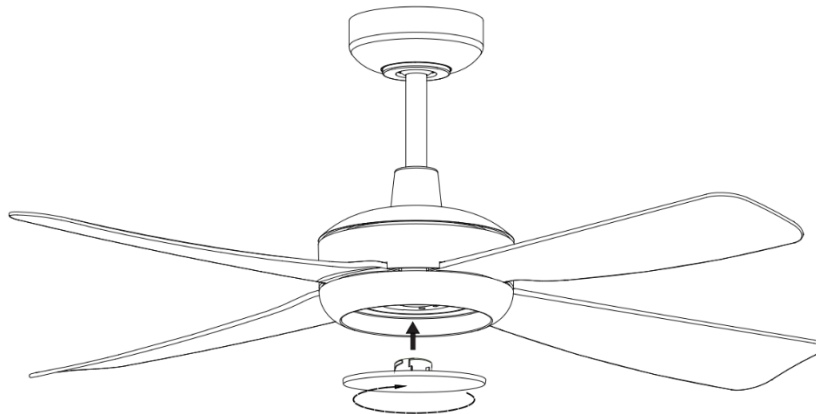

Fig. 8
**INSTALLATION OF BOTTOM COVER (Fig. 8)**
- If no lamp is required, Install the bottom cover to the fan assembly then secure it by turning clockwise. (Fig.8)